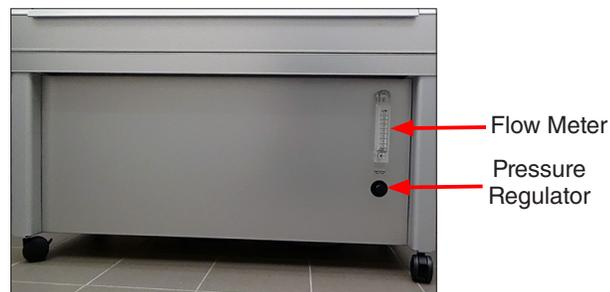

Figure 17.2a: QUV/spray pressure regulator and flow meter.
- Spray water flow in QUV testers without water repurification systems is controlled by a pressure regulator (Figure 17.2a).